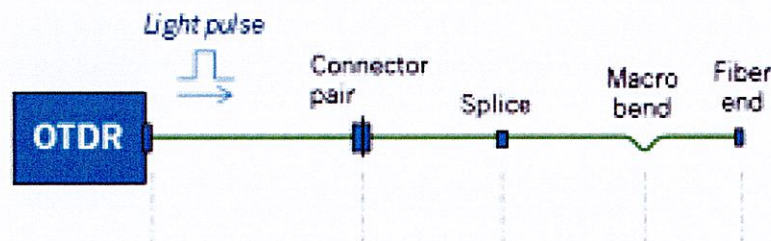

Figure A3(b)
- CLO1 (b) Visualize completely the Optical Time Domain Reflectometer (OTDR) tracing for the events show in Figure A3(b).